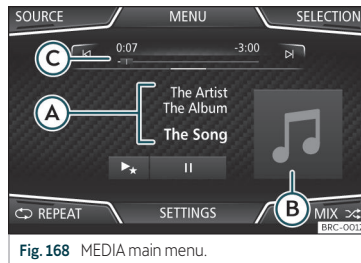

Fig. 168 MEDIA main menu.
- Press the infotainment button  to open the *Radio* main menu >>> Fig. 168.
The media source being played is indicated on the dropdown list when pressing the  function button >>> Fig. 168.